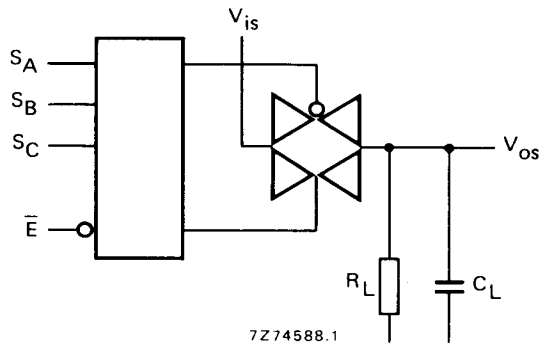

Fig. 8.
- $R_L = 10\text{ k}\Omega$ to V_{EE} ; $C_L = 50\text{ pF}$ to V_{EE} ; $\bar{E} = V_{SS}$; $V_{is} = V_{DD}$ (square-wave); see Fig. 8.
- $R_L = 10\text{ k}\Omega$; $C_L = 50\text{ pF}$ to V_{EE} ; $\bar{E} = V_{SS}$; $S_n = V_{DD}$ (square-wave); $V_{is} = V_{DD}$ and R_L to V_{EE} for t_{PLH} ; $V_{is} = V_{EE}$ and R_L to V_{DD} for t_{PHL} ; see Fig. 8.
$V_{is} = V_{EE}$ and R_L to V_{DD} for t_{PLZ} and t_{PZL} ; see Fig. 8.
- $R_L = 10\text{ k}\Omega$ to V_{EE} ; $C_L = 15\text{ pF}$ to V_{EE} ; $\bar{E}$ or $S_n = V_{DD}$ (square-wave); crosstalk is $|V_{os}|$ (peak value); see Fig. 8.